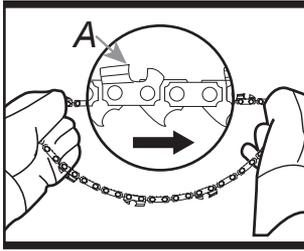

Fig. 6
Wearing thick protective gloves, drape the chain over the guide bar ensuring the direction(A) of travel is as marked on the guide bar and it is fully engaged in the guide bar sprocket.(see Fig. 6 & 7)